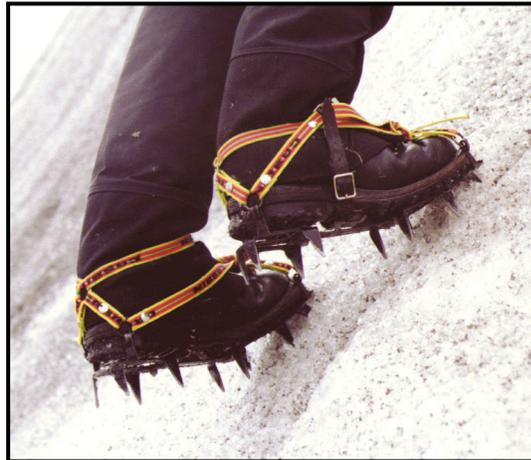

Figure 10-9. Front-pointing with crampons.
(2) A technique known as “front-pointing” may be used for moving straight uphill (Figure 10-9). It is especially useful on steep terrain, in combination with the ice ax in the push-hold, dagger, or hammer position. Front-pointing is easiest with the use of more rigid mountain boots and rigid crampons. The technique is similar to doing calf raises on the tips of the toes and is much more tiring than flat-footing.